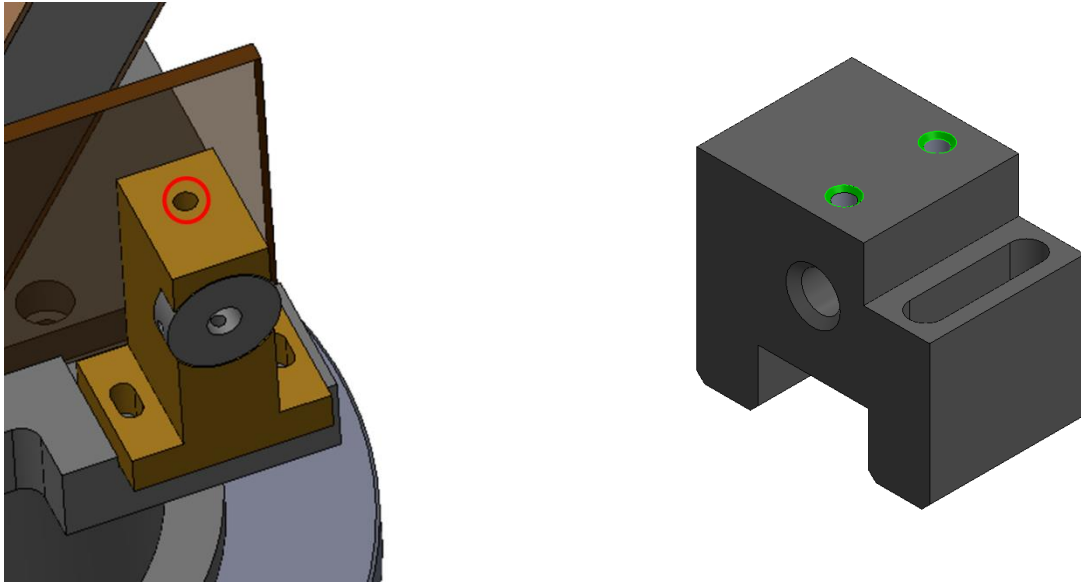

Figure 30: Positions of retaining screws on the FLS1000 LLG mount (L) and on the FS5 LLG mount (R).
7. Loosen the screw on the LLG holder in the sample chamber (2mm allen key for FLS1000, 1.5mm for FS5, shown in Figure 30):